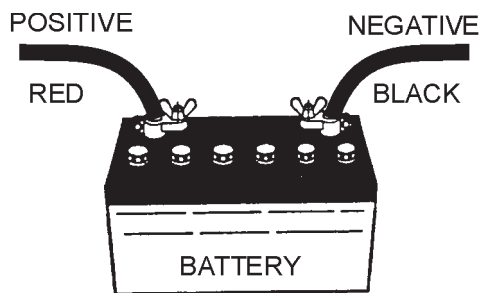

Figure 33. Battery Connections
**ALWAYS** be sure the battery cables (Figure 33) are properly connected to the battery terminals as shown below. The **red cable** is connected to the positive terminal of the battery, and the **black cable** is connected to the negative terminal of the battery.